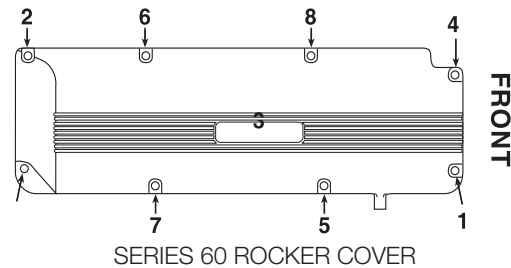

Fig 18
4. Install the switch assembly with the bracket, lock washers and wing nuts (see Fig. 18).